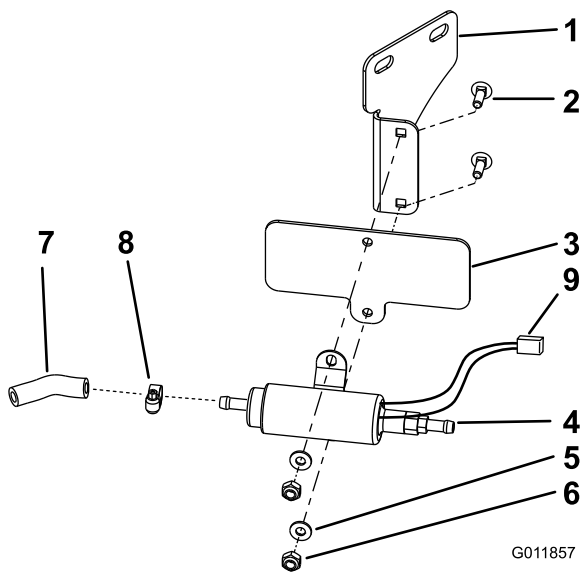

Figure 8
1. Assemble the new fuel pump to the cover plate and right hand fuel pump bracket with 2 carriage bolts (1/4 x 3/4 inches), 2 washers (1/4 inch) and 2 lock nuts (1/4 inch) (Figure 8).
Note: The fuel pump must be assembled as shown in Figure 8 with the wires on the right side.